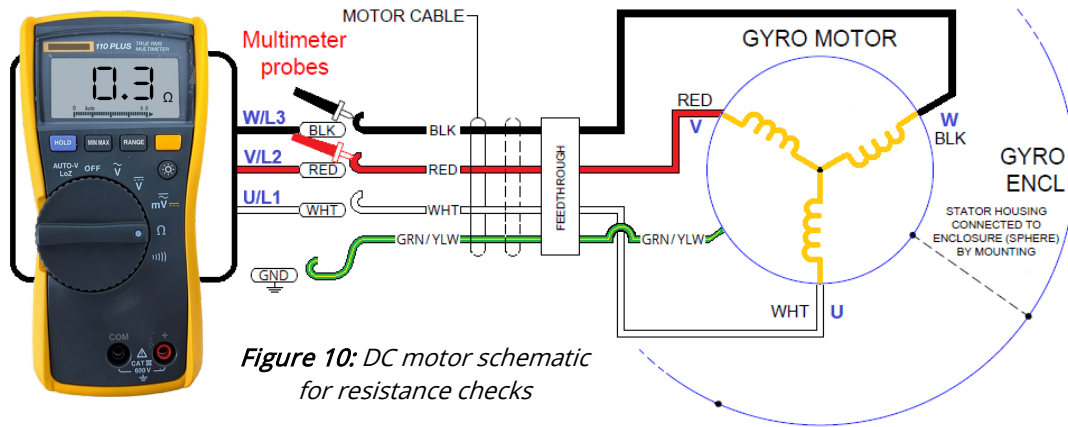

Figure 10: DC motor schematic for resistance checks
7. With a multimeter in resistance mode, **MEASURE** resistance between each phase wire end crimp to one decimal point per Figure 10.